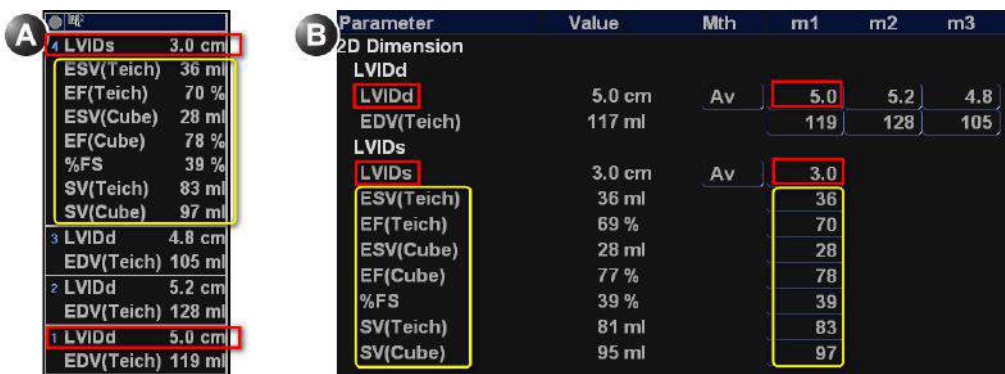

Figure 8-1. Measurement result window (A) and Worksheet (B)
- When a parameter is measured several times the individual values for the parameter will be listed in the m1, m2... columns in the worksheet. The *Value* column in the worksheet will contain a derived value for the parameter, e.g. the average of the individual values (Figure 8-1).
When calculating formula derived parameters, the m1, m2... columns in the worksheet contain calculated values based on the individual input parameter values in the same column (Figure 8-1). The *Value* column contains calculated values based on the input parameter values in the *Value* column.